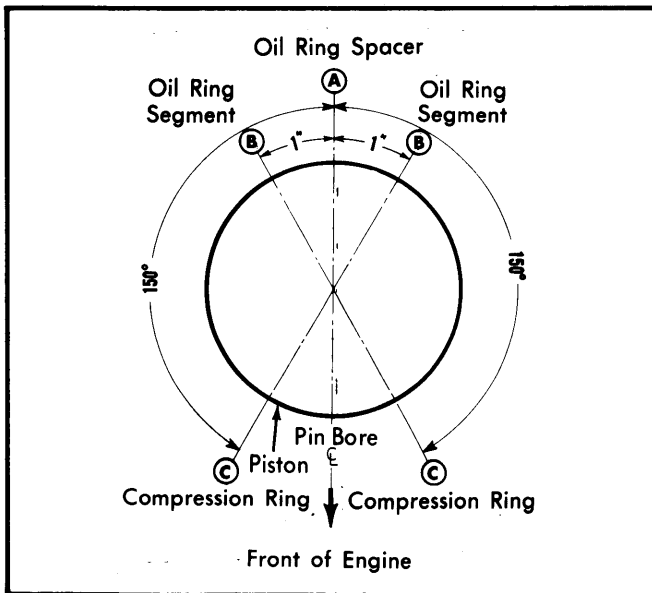

Fig. 6 Piston Ring Gap Spacing
**Installation** — 1) Oil piston rings and cylinder walls with a light coat of engine oil. Ensure that ring gaps are properly spaced on piston as shown in Fig. 6 and install ring compressor tool. Insert piston and rod assembly into correct cylinder bore, guiding rod over crankshaft journal.